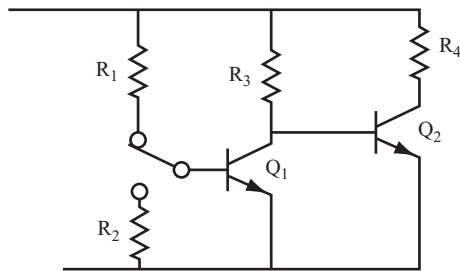

FIGURE 12.5
28. Using the circuit shown in Figure 12.5, find the values of R_1 , R_2 , and R_3 that can enable the switch to turn Q_2 ON and OFF if $V_S = 10$ volts, $\beta_1 = 50$, $\beta_2 = 20$, and $R_4 = 2.2 \text{ k}\Omega$. _____
29. Again, using the circuit shown in Figure 12.5, find the values of R_1 , R_2 , and R_3 that can enable the switch to turn Q_2 ON and OFF if $V_S = 28$ volts, $\beta_1 = 30$, $\beta_2 = 10$, and $R_4 = 220 \Omega$. _____